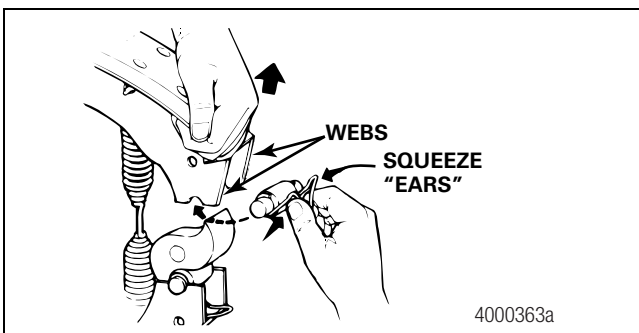

Figure 3.21
5. Pull each brake shoe away from the camshaft to enable you to install the brake shoe roller and roller retainer. Press the retainer ears to fit into the retainer between the brake shoe webs. Figure 3.21.